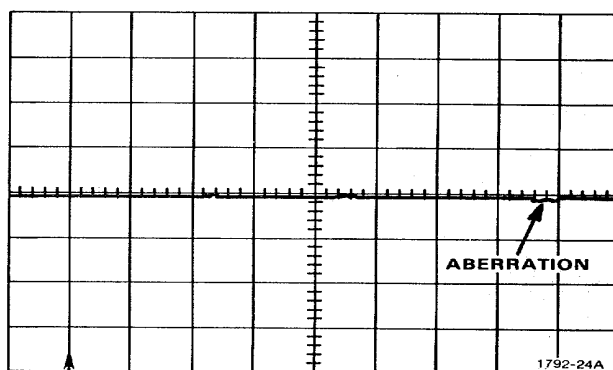

Figure 4-3. Aberration Check.
25. While viewing the trace, adjust the DISTANCE dial from 000 to 100. The trace aberrations must remain within ± 1 division of the centerline ($\pm 5\%$ peak aberrations for the first 10 feet). See Fig. 4-3.
53. While viewing the trace, adjust the DISTANCE dial from 000 to 050. The trace aberrations must remain within ± 1 division of the centerline ($\pm 5\%$ peak aberrations for first 3 metres.) See Fig. 4-3.